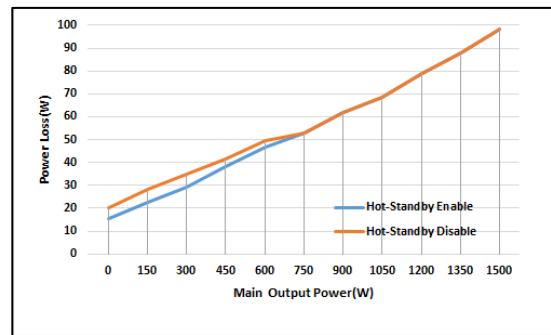

Figure 18. PSU power losses with/without hot-standby mode
*Figure 18* shows the achievable power loss savings when using the hot-standby mode operation. A total power loss reduction of 5W is achievable.